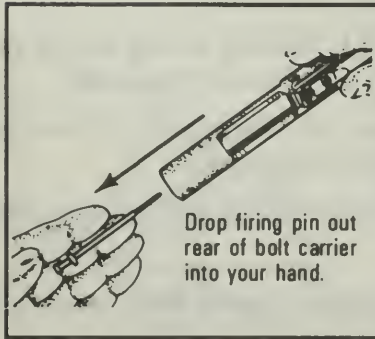

Figure 62. Removing the firing pin.
l. Remove the firing pin by letting it drop out of the rear of the bolt carrier into your hand (Figure 62).